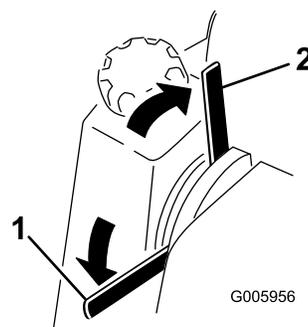

Figure 16
1. Move the parking brake lever to the On position (Figure 16).